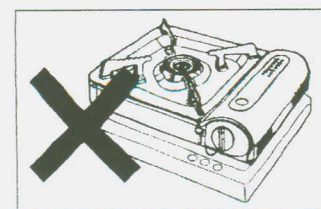

Fig.21
6. Do not use the unit on induction cooker, electric range which generates heat. (Fig 21)